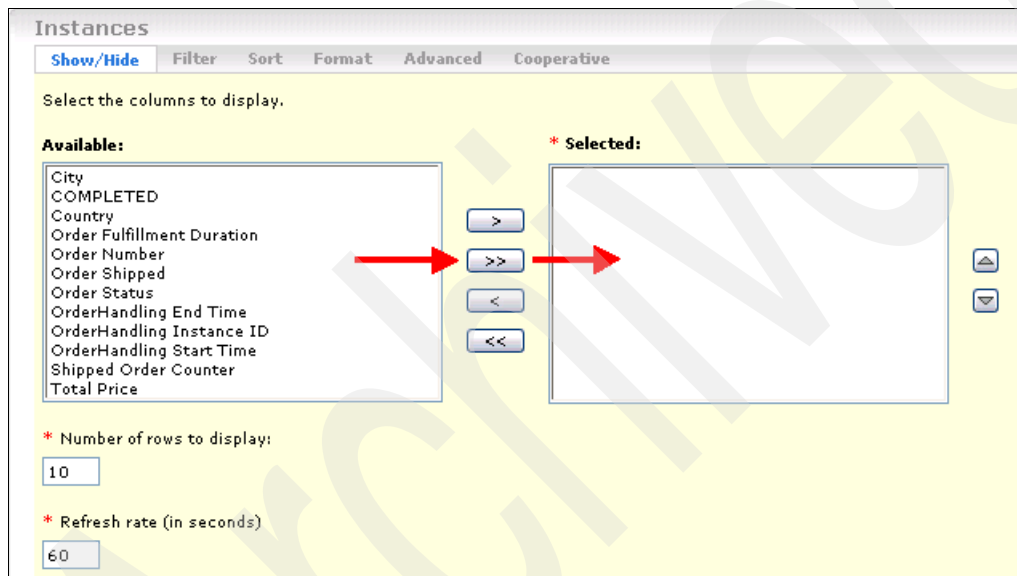

Figure 5-102 Selecting the Instances view items
- b. Click the **Show/Hide** tab (Figure 5-102). Click >> to copy all metrics from the available list to the Selected list.